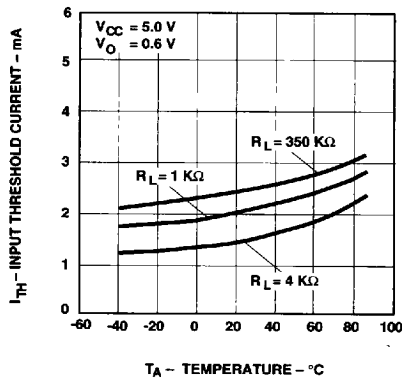

Figure 15. Input Threshold Current vs. Temperature.
- As illustrated in Figure 15 the  $V_{CC}$  and GND traces can be located between the input and the output leads to provide additional noise immunity at the compromise of insulation capability.